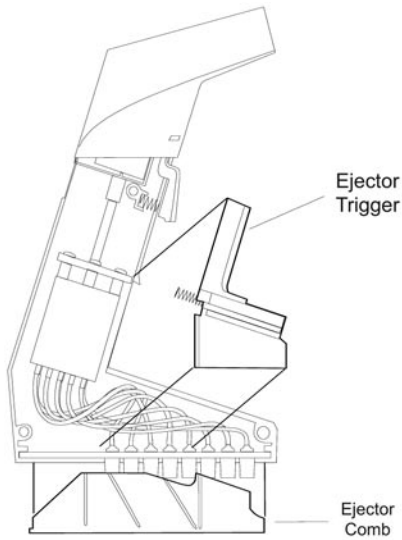

Figure F.2.1b: Removing Ejector Trigger and Ejector Comb
4. Remove plastic ejector trigger with spring and slide the aluminum ejector comb off of the tip fittings (see Figure F.2.1b). On 16 channel models, reverse this process and remove comb first, then trigger.